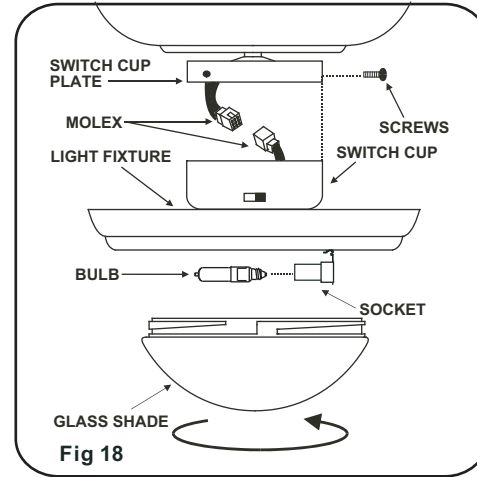

Fig 18
Step 1. Remove the screws from the switch cup plate. Place the switch cup with light kit attached close to the switch cup plate, align the plastic connectors from switch cup and the switch cup plate and firmly snap the two connectors. (Fig. 18) Make sure the connectors are properly connected and that none of the single wires is pushed out of the plastic connectors.
Step 2. Slide the switch cup up over the switch cup plate and rotate until the screw holes are aligned. Secure the switch cup with three screws previously removed. (Fig. 18)